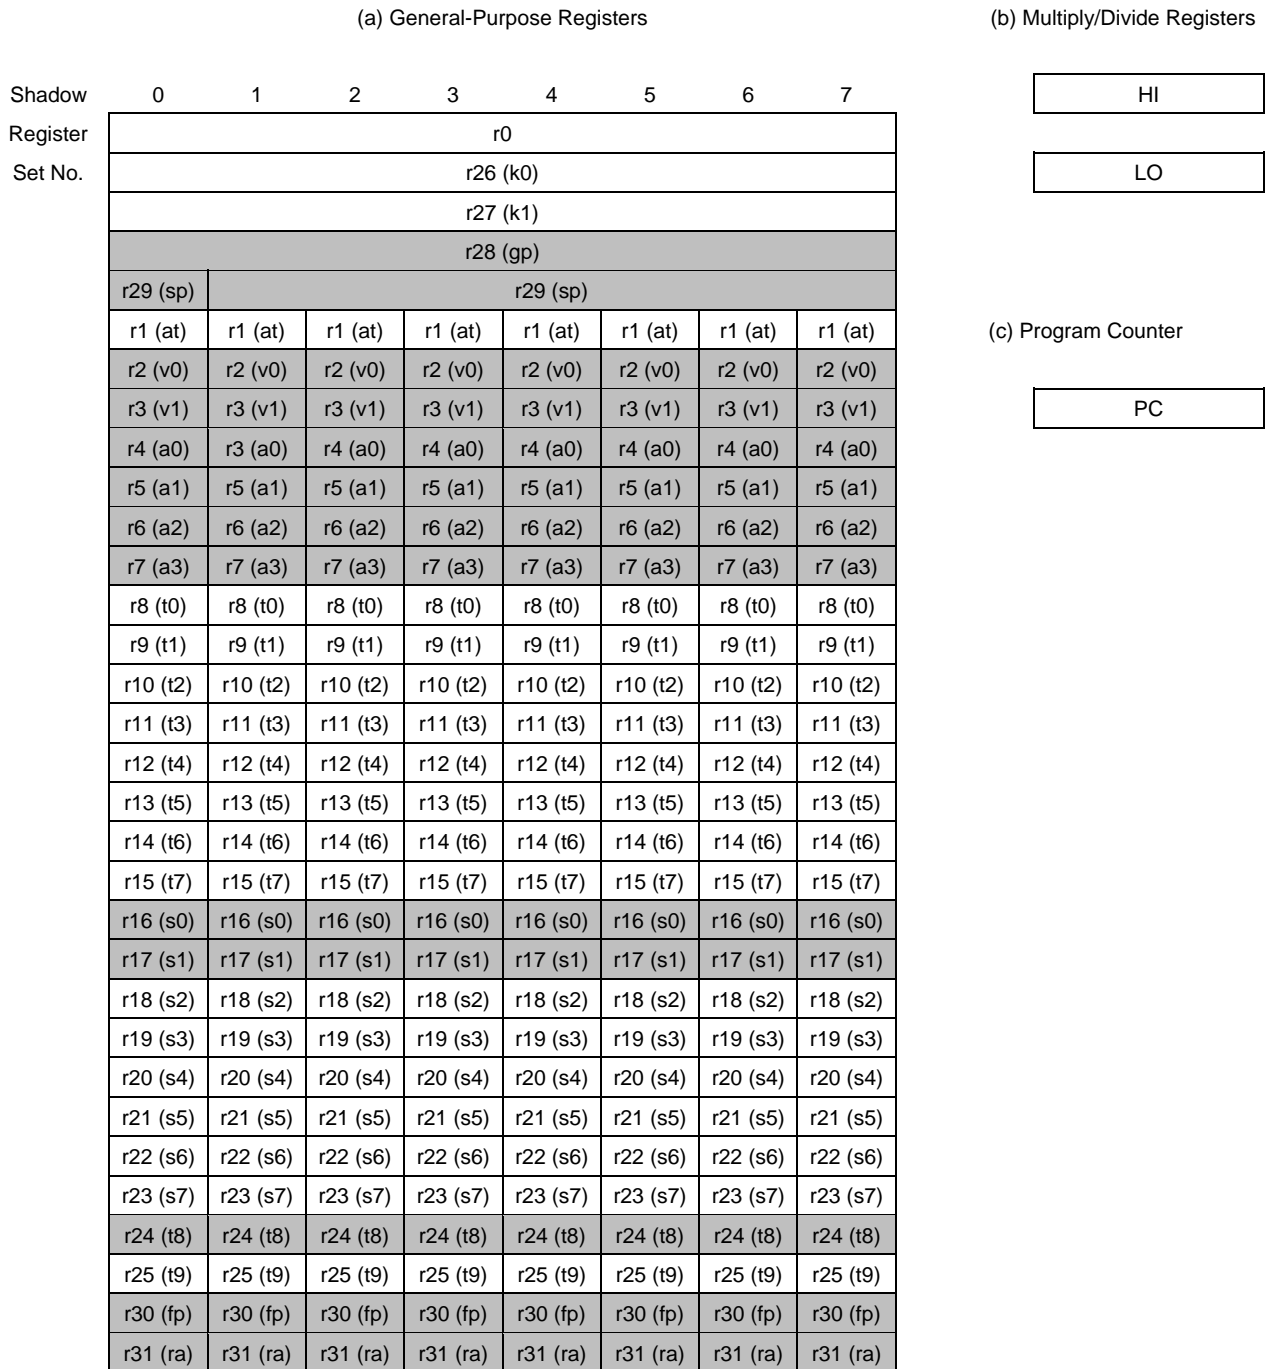

Figure 2-5 CPU Registers
Figure 2-5 shows the CPU registers. The TX19A has eight sets of 32 general-purpose registers (GPRs) called shadow sets for a total of 256 GPRs, a program counter (PC) register and two special registers (HI/LO) that hold the results of integer multiply and divide operations. All CPU registers are 32 bits in length.
The 32-bit ISA instructions can use any of the general-purpose registers shown in Figure 2-5. The general registers are numbered from r0 to r31. The general registers except r0 have symbol names (software names) like v0-v1, a0-a3, and so on that are used by an assembler. The 32-bit ISA instructions treat the general registers symmetrically, with the exception of r0 and r31. r0 is hardwired to a value of 0. As such, r0 can be used by any instruction as a target register when the result of an operation is to be discarded or as a source register when a zero value is necessary. r31 (ra: return address) is a link register used by Jump-and-Link, Branch-and-Link and Branch-Likely and-Link instructions. These instructions are to store an address, which shows the restarting point after a subroutine has been executed, in r31.